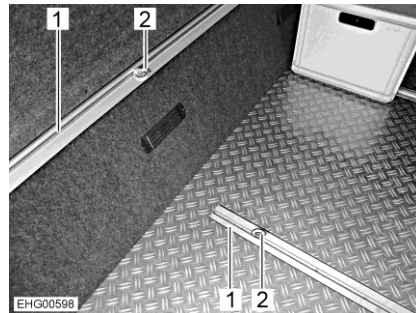

Fig. 5 Clamping eyelets (rear garage)
- Turn the clamping eyelet (Fig. 5,2) half a turn in an anticlockwise direction. Now, the clamping eyelet (Fig. 6) may be moved.
- Push the clamping eyelet into the clamping rail (Fig. 5,1) to the desired position.